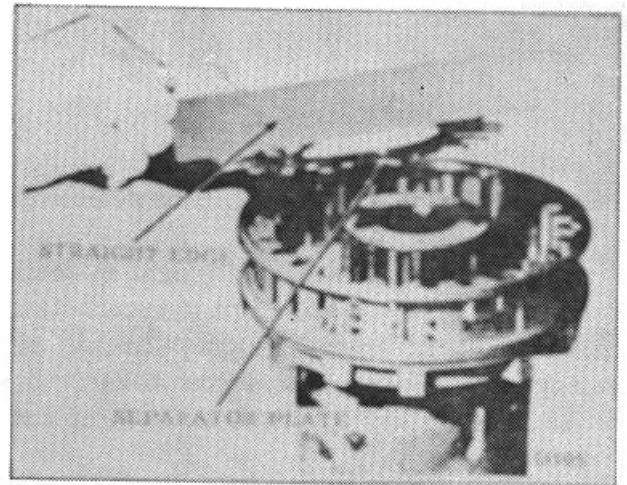

Figure 22.
3. Place the clutch ring on top of the end housing, making sure the bolt holes of each are in line. (Fig. 22)